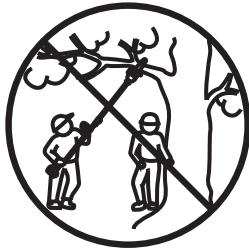

Fig. 5
15. Keep other persons away from cutting end of pole saw and at a safe distance from work area. (Fig. 5).